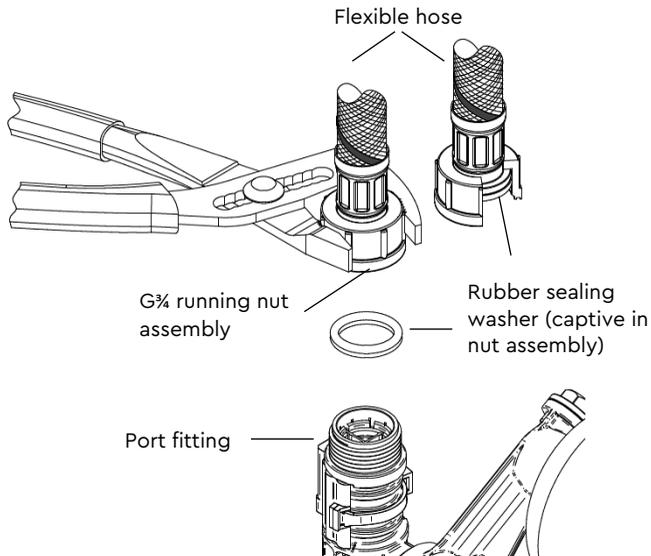

Figure 6
- **Static inlet pressure:** Before deciding where to locate the unit, check to ensure the static inlet head between pump and the bottom of the cold water tank (Figure 5 and Figure 6), is at least 0.5 metres and does not exceed the max inlet head of 6 metres.
- **Static outlet pressure:** The static outlet head must also be within the maximum requirement (Figure 5 and Figure 6).